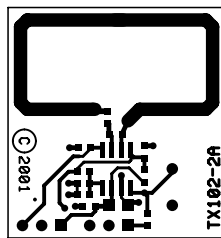

Figure 6
- Note 6.** Transmitted power measured 3 meters from the antenna using transmitter board TX102-2A in Figure 6.
- Note 10.** The MICRF102 was tested to be Compliant to Part 15.231 for maximum allowable TX power, when operated in accordance with a loop antenna described in Figure 6.
The reference design shown in Figure 6. has an antenna meeting this requirement.
Loop antennas are often considered highly directional. In fact small loop antennas can achieve transmit patterns close in performance to a Dipole antenna. The radiation pattern below is the theoretical radiation pattern for the antenna shown in Figure 6.
The 0 degree plot is the radiation pattern in the plane of the transmitter PCB, the 90 degree plot represents the plane perpendicular to the PCB. Micrel's evaluation of the performance of the board in Figure 6. indicates an even more uniform radiation pattern than the theoretical plot shown here.